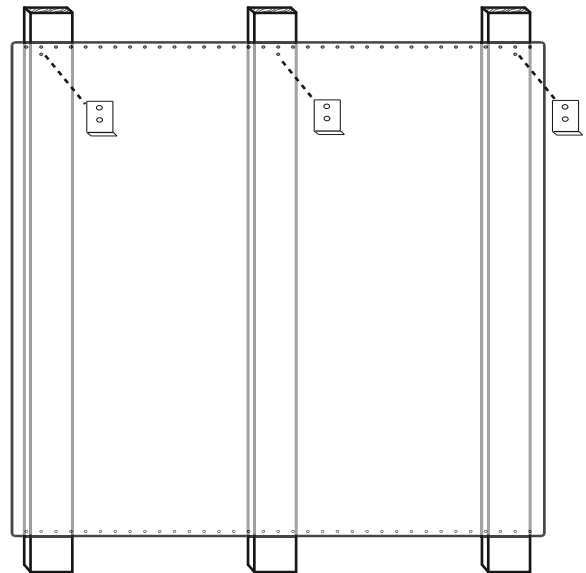

Figure 12: Backsplash with a Keep Hot Shelf
3. At the locations indicated in *Figure 12*, mount the lower shelf brackets included with the Keep Hot Shelf through the Backsplash and into the wall studs.